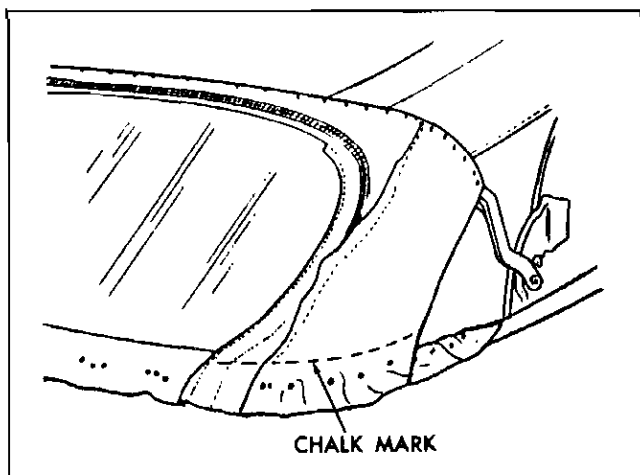

Fig. 7-38 Tacking Stay Pads
12. Tack lower inner layer of back curtain stay pads over watershed to rear trim stick using chalk lines on pads as reference guide lines to establish proper stay pad contours (Fig. 7-38). Trim edges of stay pad inner layer. Do not tack outer layer of stay pad material to trim stick.